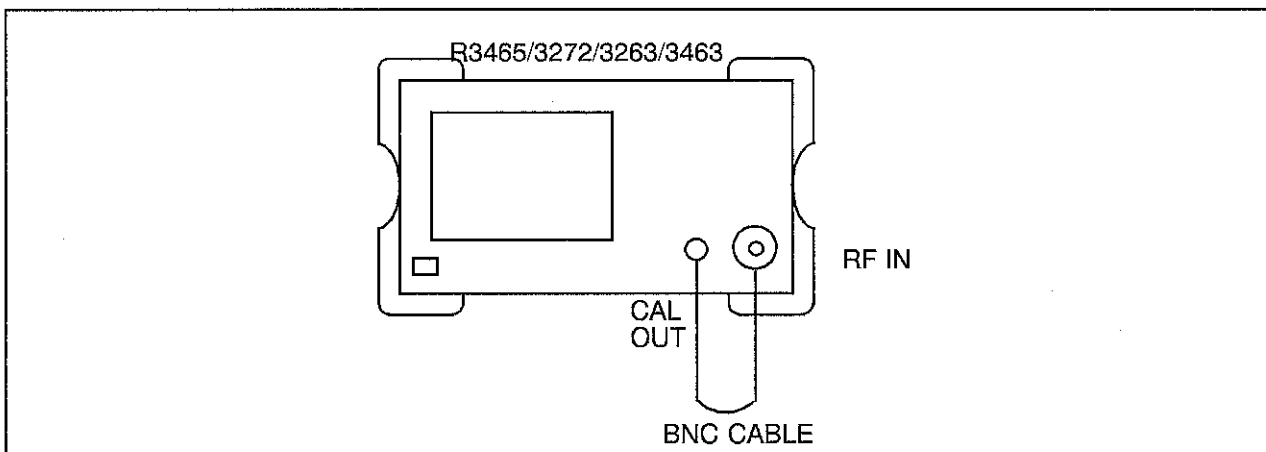

Figure 1-6 Resolution BW Switching Uncertainty Test Setup
(1) Connect the R3465/3272/3263/3463 CALOUT to the RF IN as shown in Figure 1-6.
(2) Press the SHIFT , PRESET , CAL , 7 , EACH